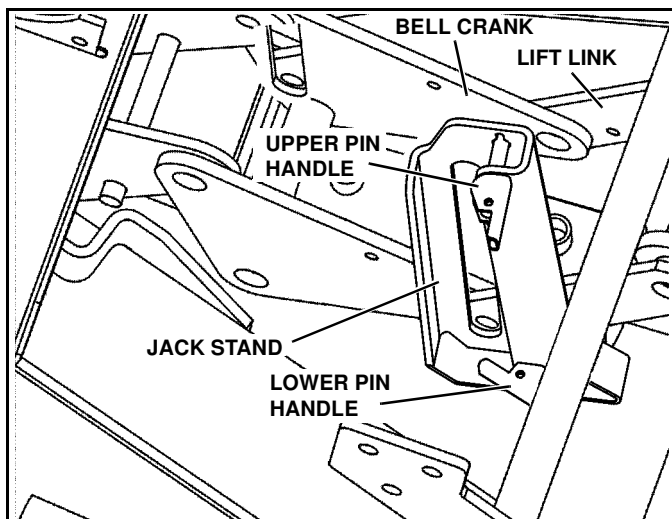

Figure 1-22
6. Disengage both jack stand pins by pulling on handles. Raise the jack stand and engage the bottom pin by pushing on the handle. Make sure pin is engaged in hole by rotating jack stand back and forth. (See Figure 1-22).